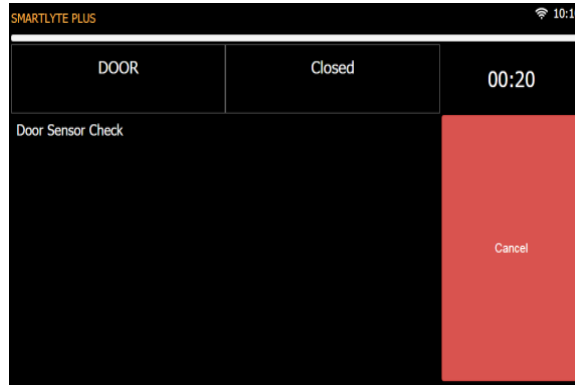
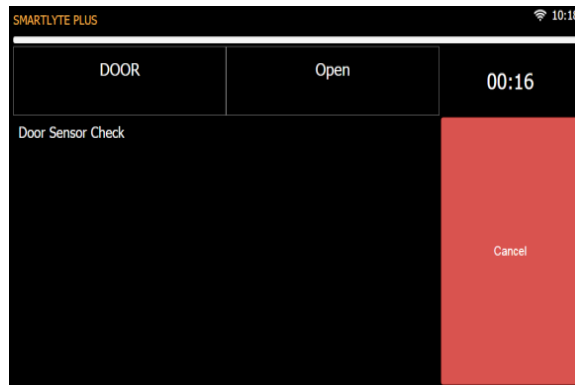

Figure 6-18 Door sensor test in progress closed
Figure 6-19 Door sensor test in progress open
- Verify position indicated correctly by opening and closing the door. (Figure 6-18 and Figure 6-19).